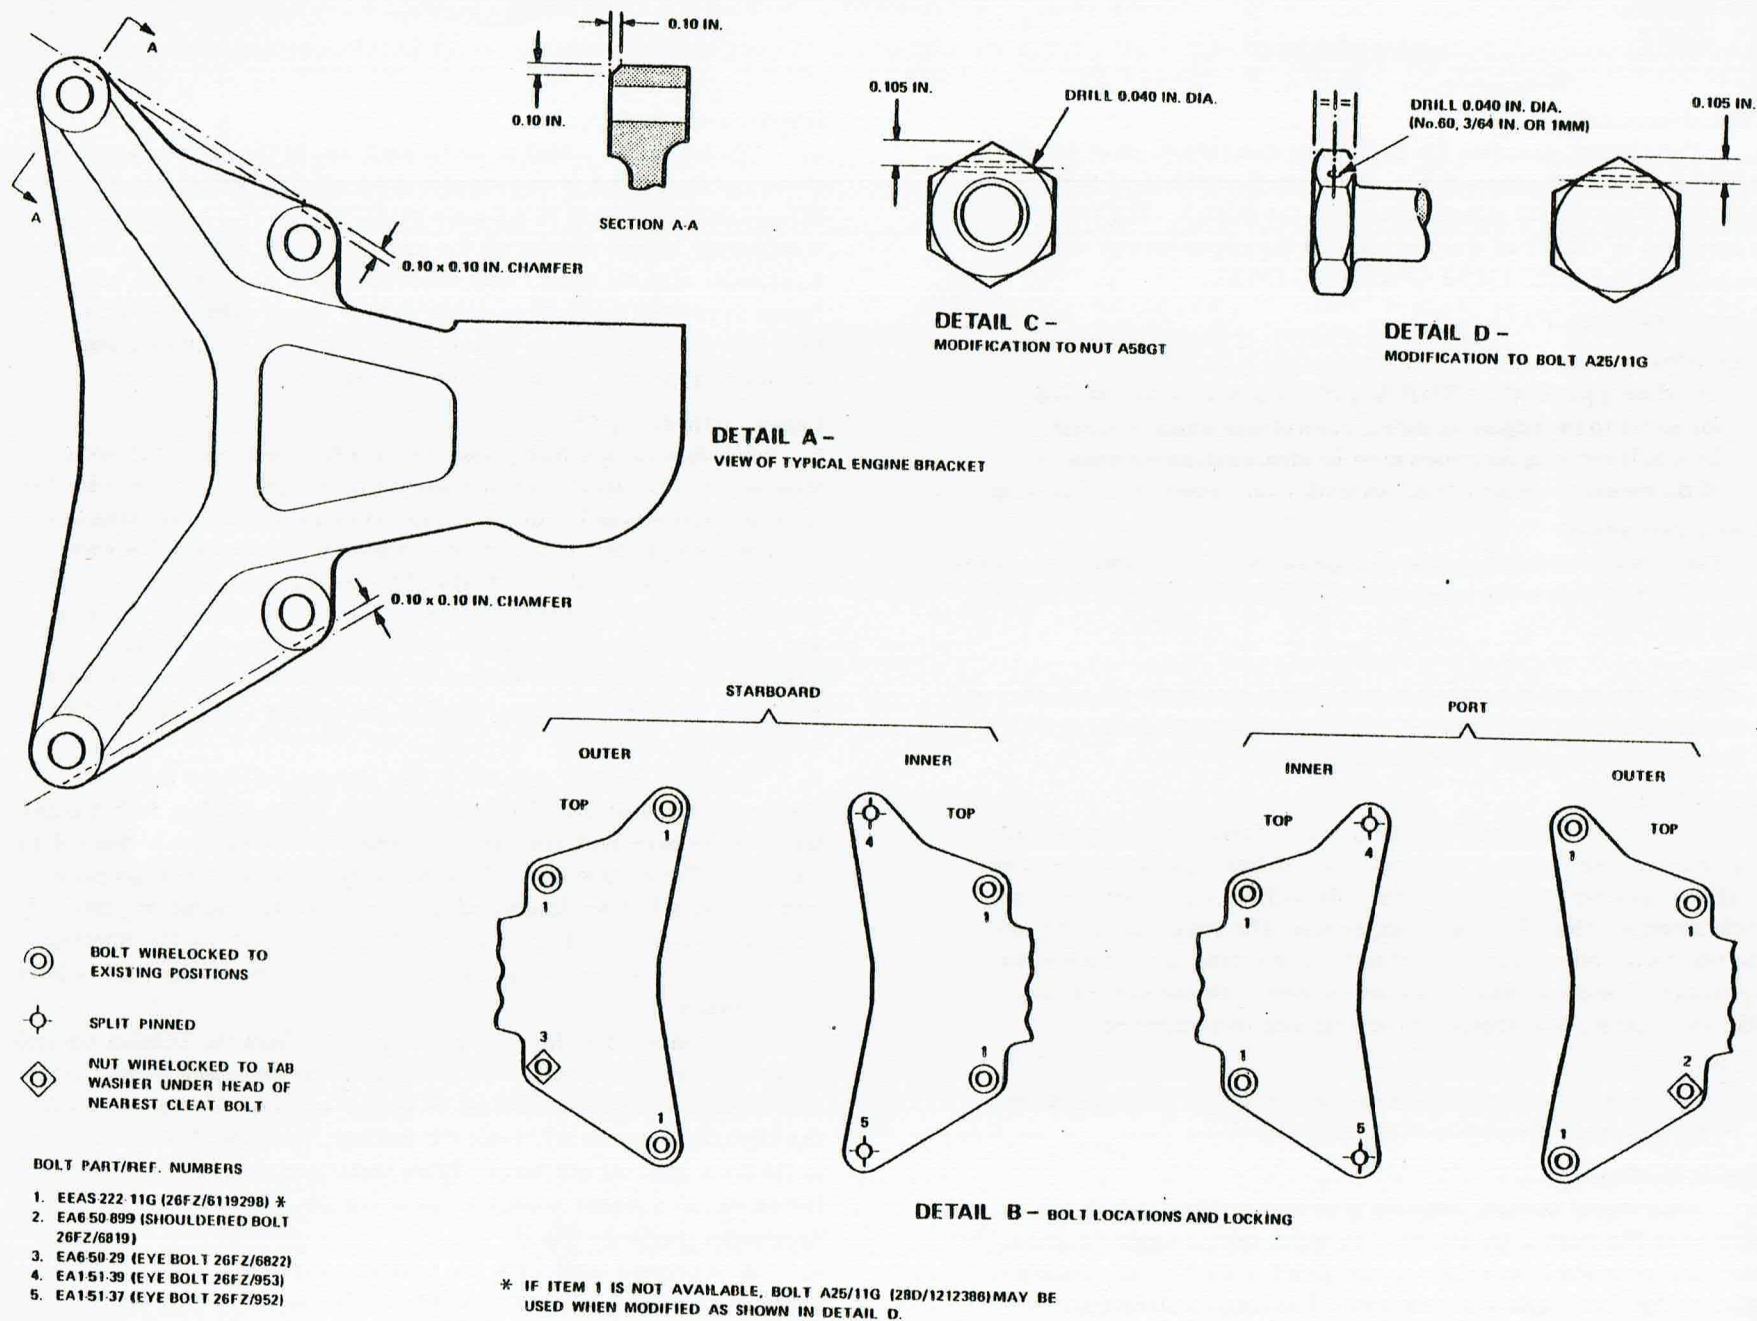

FIG. 1A. ENGINE FORWARD MOUNTING BRACKETS
It is of paramount importance that fouling, between the rib structure and the cup brackets, be eliminated. The cup brackets should be to STI/Canberra/583 standard, as shown in Fig.1A.
3. At Locations 2 and 3, nuts A58/GT (28M/4199618) drilled for wirelocking in accordance with Detail C of fig.1A, are to be used.